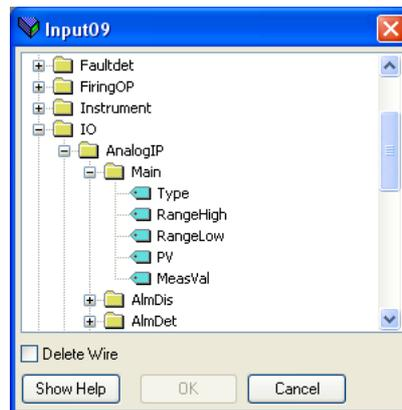

Figure 143 Browser window
1. Double click the next available position in the input or output data table and select the variable to assign to it. A pop-up (Figure 143) provides a browser from which a list of parameters can be opened.